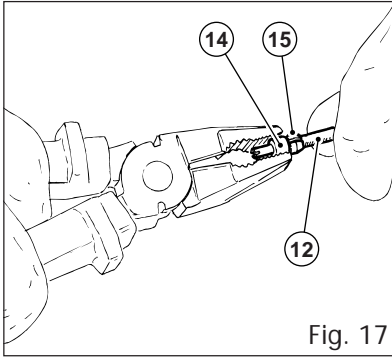

Fig. 17
- grip the part with the largest diameter, using pliers, and pull the connector plug (14, fig. 17) out of the tube end (12);
- use a screwdriver to widen the end of the biconal bush (15) and slide it up the tube (12);